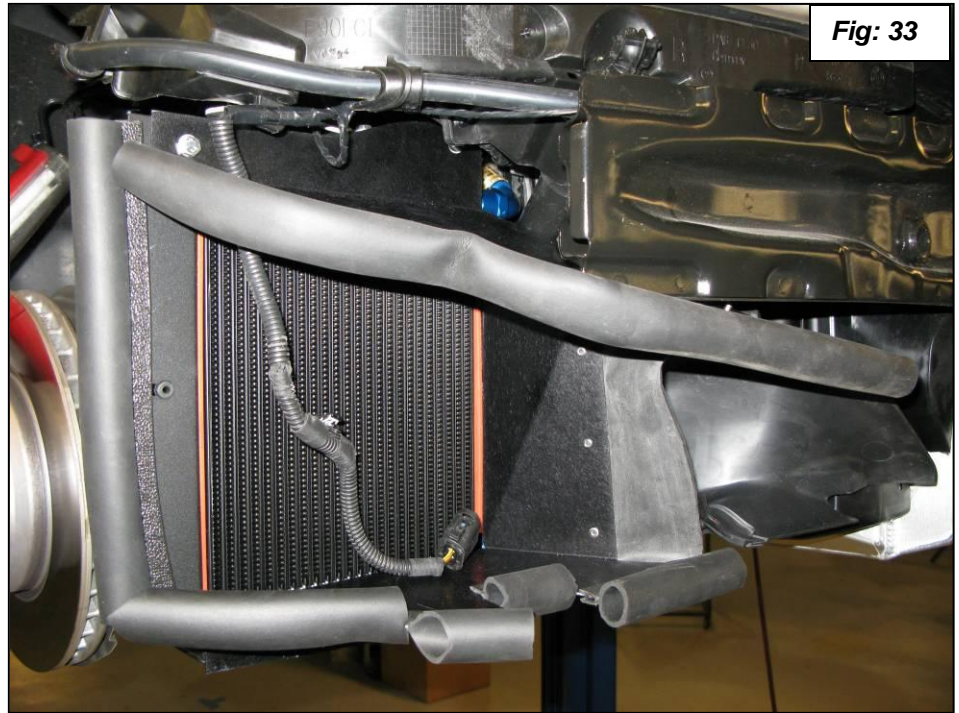

Fig: 33
35. Install the air duct onto the oil cooler assembly with the four supplied 6mm x 12mm hex head bolts and wave washers. See figure 33.